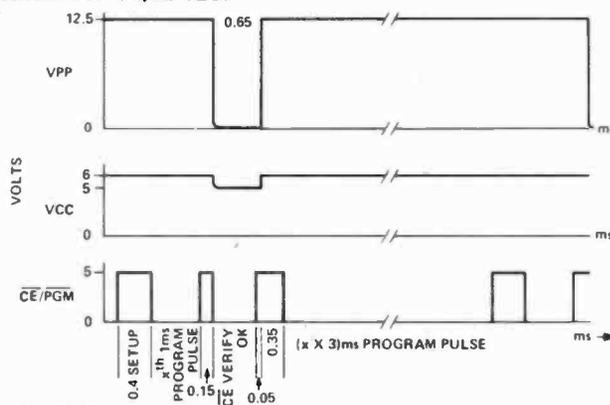

Fig. 4 Timing diagrams for 27256.
Figure 4 is the diagram for the 27256 and shows the effect of having chip enable (CE) on the same pin as the programming pulse.